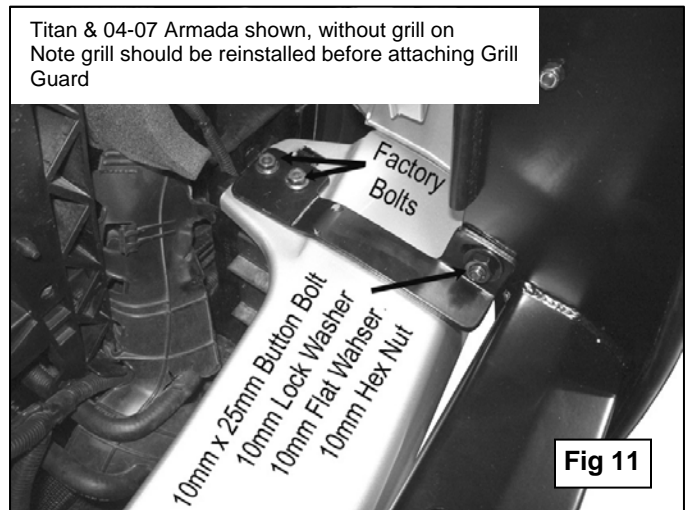

Fig 11
- Proceed to attach Top Brackets to Grille Guard with the included (2) 10-1.5mm x 25mm Allen Bolts, (2) 10mm Nylock Nuts, and (4) 10mm Flat Washers, **(Figure 11)**. Do not tighten at this time.